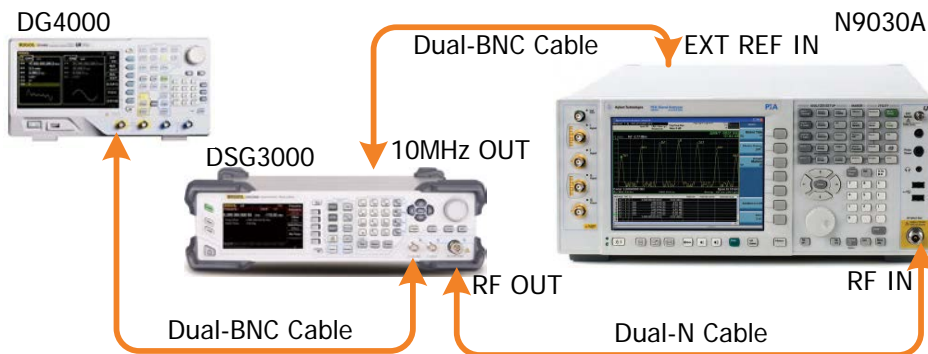

Figure 2-9 FM External Modulation Test Connection Diagram
- 1. Synchronize the DSG3000 and signal analyzer. Connect the RF output terminal of the DSG3000 with the RF input terminal of the signal analyzer. Connect the signal output terminal (e.g. CH1 output) of the function/arbitrary waveform generator with the external modulation input terminal of the DSG3000 as shown in Figure 2-9.